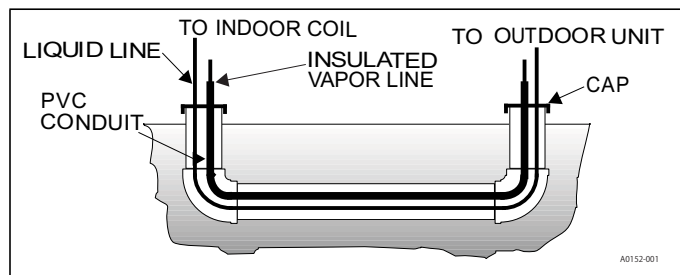

FIGURE 4: Underground Installation
5. Use PVC piping as a conduit for all underground installations as shown in Figure 4. Buried lines should be kept as short as possible to minimize the build up of liquid refrigerant in the vapor line during long periods of shutdown.